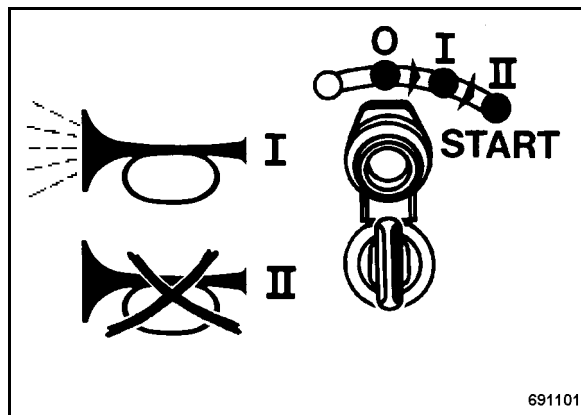

Fig. 21
- Turn the ignition key to position I (Fig. 21), the warning buzzer does not sound.